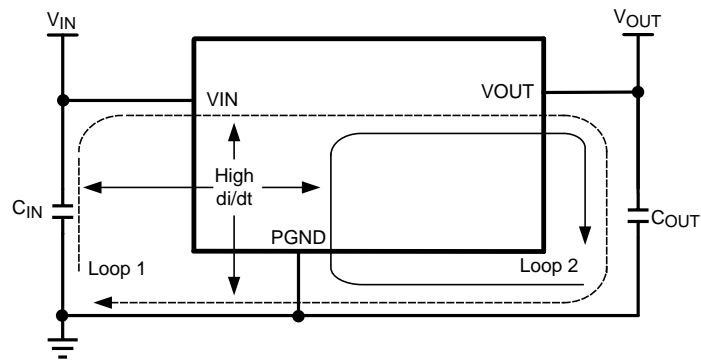

Figure 53. Critical Current Loops to Minimize
From an EMI reduction standpoint, it is imperative to minimize the high di/dt paths during PCB layout as shown in Figure 53. The high current loops that do not overlap have high di/dt content that will cause observable high frequency noise on the output pin if the input capacitor ( $C_{IN}$ ) is placed at a distance away from the LMZ13608. Therefore place  $C_{IN}$  as close as possible to the LMZ13608 VIN and PGND exposed pad. This will minimize the high di/dt area and reduce radiated EMI. Additionally, grounding for both the input and output capacitor must consist of a localized top side plane that connects to the PGND exposed pad (EP).